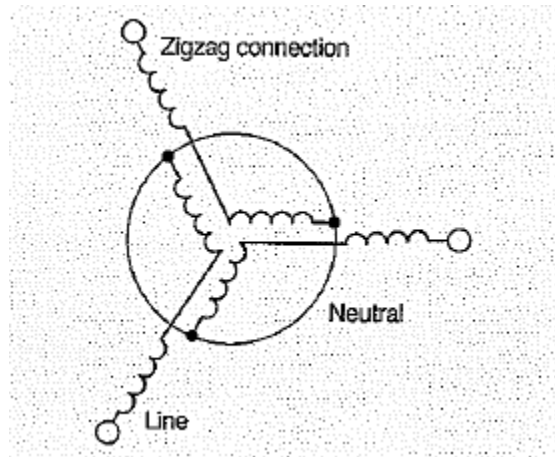

Figure 9.13: Establishment of a Neutral Line
- 9-46 The zigzag connection shown in Figure 9.13, on the following page, is used to provide a neutral line for three-phase, four-wire operations when a neutral is not available in the supply.